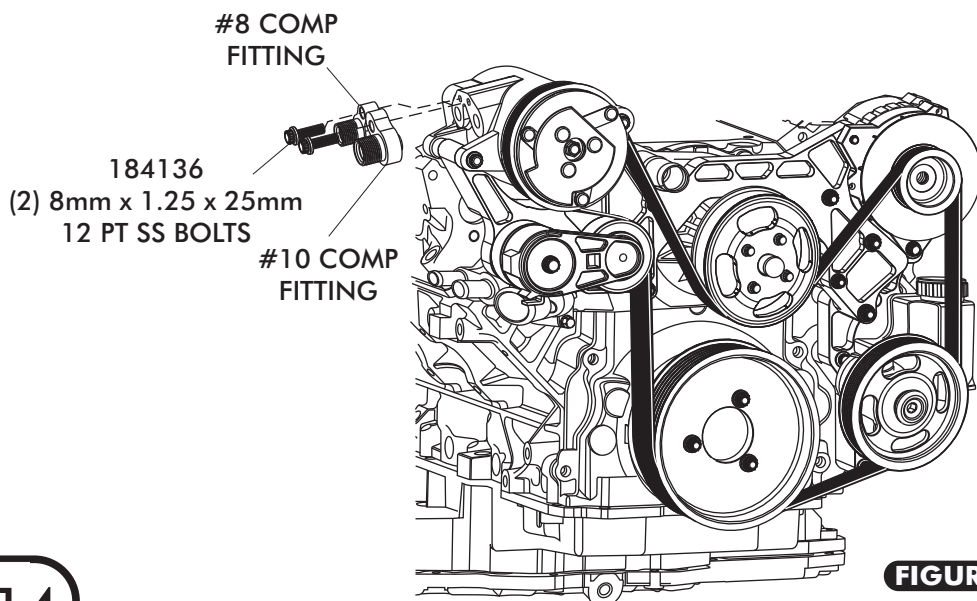

FIGURE 13
- INSTALL THE #8 AND #10 A/C COMPRESSOR FITTINGS ON COMPRESSOR USING (2) 8mm x 1.25 x 25mm 12 PT SS BOLTS AS SHOWN IN FIGURE 13 BELOW. KEEP PORTS SEALED WITH CAPS UNTIL A/C CIRCUIT HAS BEEN COMPLETED.